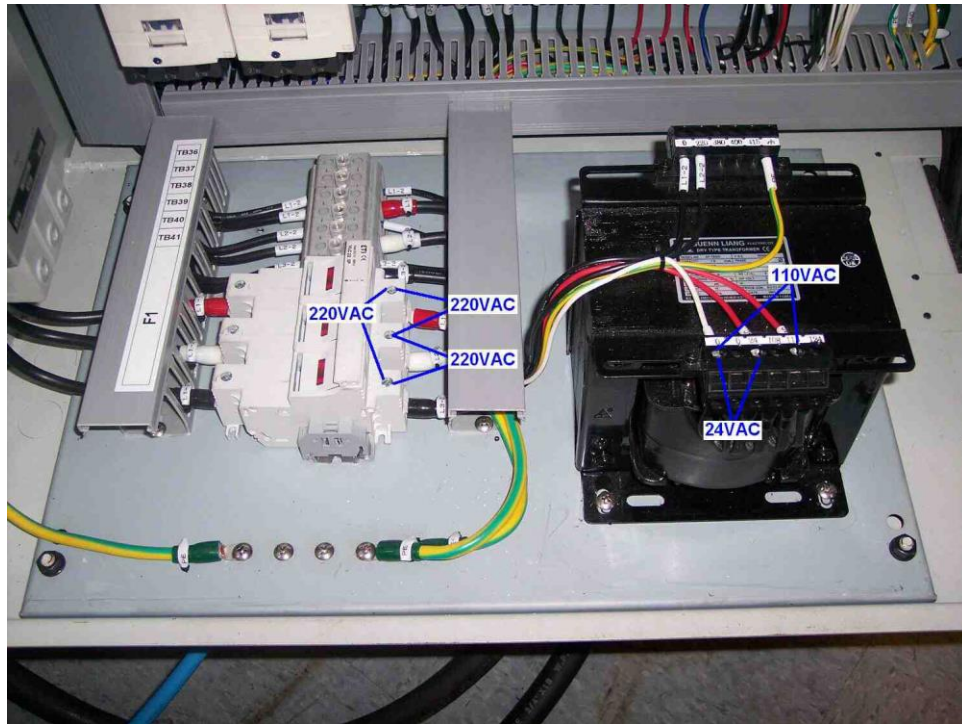

Figure 5.7.1A
1. 220VAC (208 to 240VAC), 3 phase – This is the main power to the entire machine. When measuring this voltage measure between each phase of F1, as seen in figure 5.7.1A.
2. 115VAC(100 to 130VAC), 1 phase – This voltage is produced by the transformer. It is used for power to the computer module and lube pump. If the voltage coming out of the transformer is not exactly 115VAC, it can be adjusted by moving the wire coming out of the transformer to a different terminal. For example if the 115VAC is actually 130VAC and the wire is currently on the 115VAC terminal, then move the wire to the 104 terminal so that the actual voltage drops to around 120VAC. When measuring this voltage it is best to measure at the Transformer as shown in figure 5.7.1A.
3. 24VAC(21 to 27VAC), 1 phase – This voltage is produced by the transformer. It is used for powering the work lights and motor contactor relays. When measuring this voltage it is best to measure at the Transformer as seen on figure 5.7.1A.